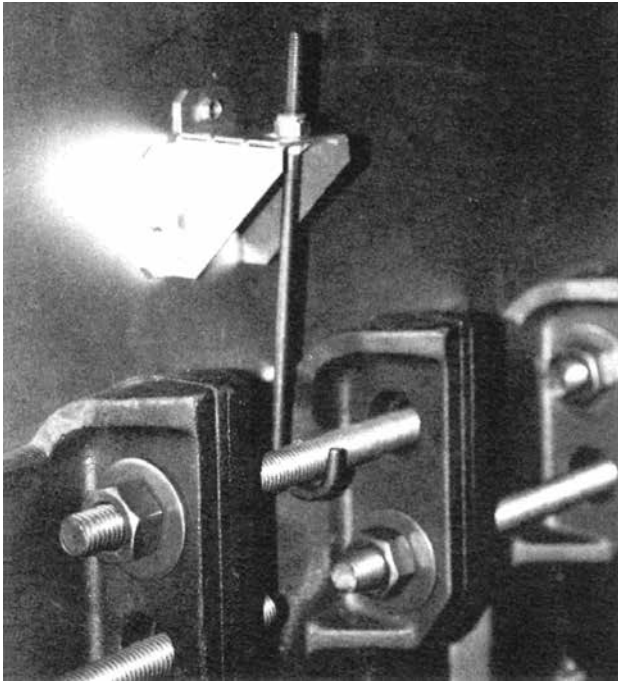

Figure 14: Left Side Canopy Intermediate Bracket
2. Attach the two (2) canopy brackets to the front end cap of canopy with four (4) #10 x 1/2" sheet metal screws each.
10. Attach either the rear flue outlet damper assembly or rear outlet canopy cover to the canopy with the 5/16" flat washers, lock-washers and brass nuts and tighten securely. Attach the rear flue outlet damper assembly or cover to the back section with the four (4) 5/16" flat washers and cap screws and tighten securely.
12. On the longer canopy sizes, Intermediate Mounting Brackets are provided, two (2) are required on sizes 25-07 thru 25-09 and four (4) are required on sizes 25-10 thru 25-12. Refer to Figures 14 and 15.
- b. Secure brackets to both sides of canopy with three (3) #10 x 1/2" sheet metal screws per bracket.
- c. Secure canopy left side bracket(s) with appropriate canopy 'J' bolt(s). Insert threaded end through holes in brackets and hook 'J' bolt on center section draw-up rod (hooks should face outward). Secure canopy with 5/16" flat washers, lock washers and brass nuts. See Figure 14.